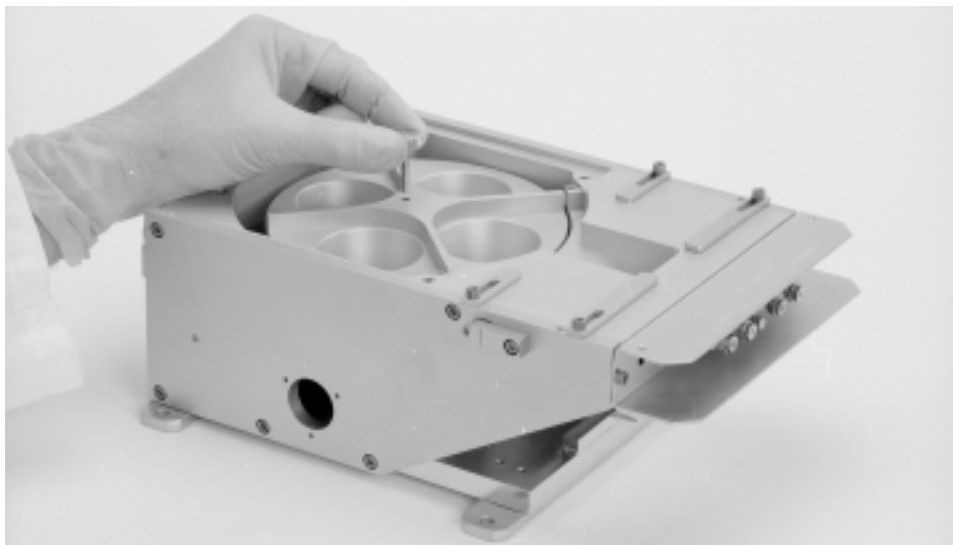

Figure 6-8. Installing the knurled crucible removal tool
Step 7: Screw the knurled thumbscrew into the tapped hole provided for it in the top of the crucible, as shown in Figure 6-8. Then rotate the crucible so that the off-center thumbscrew is toward the rear of the source.